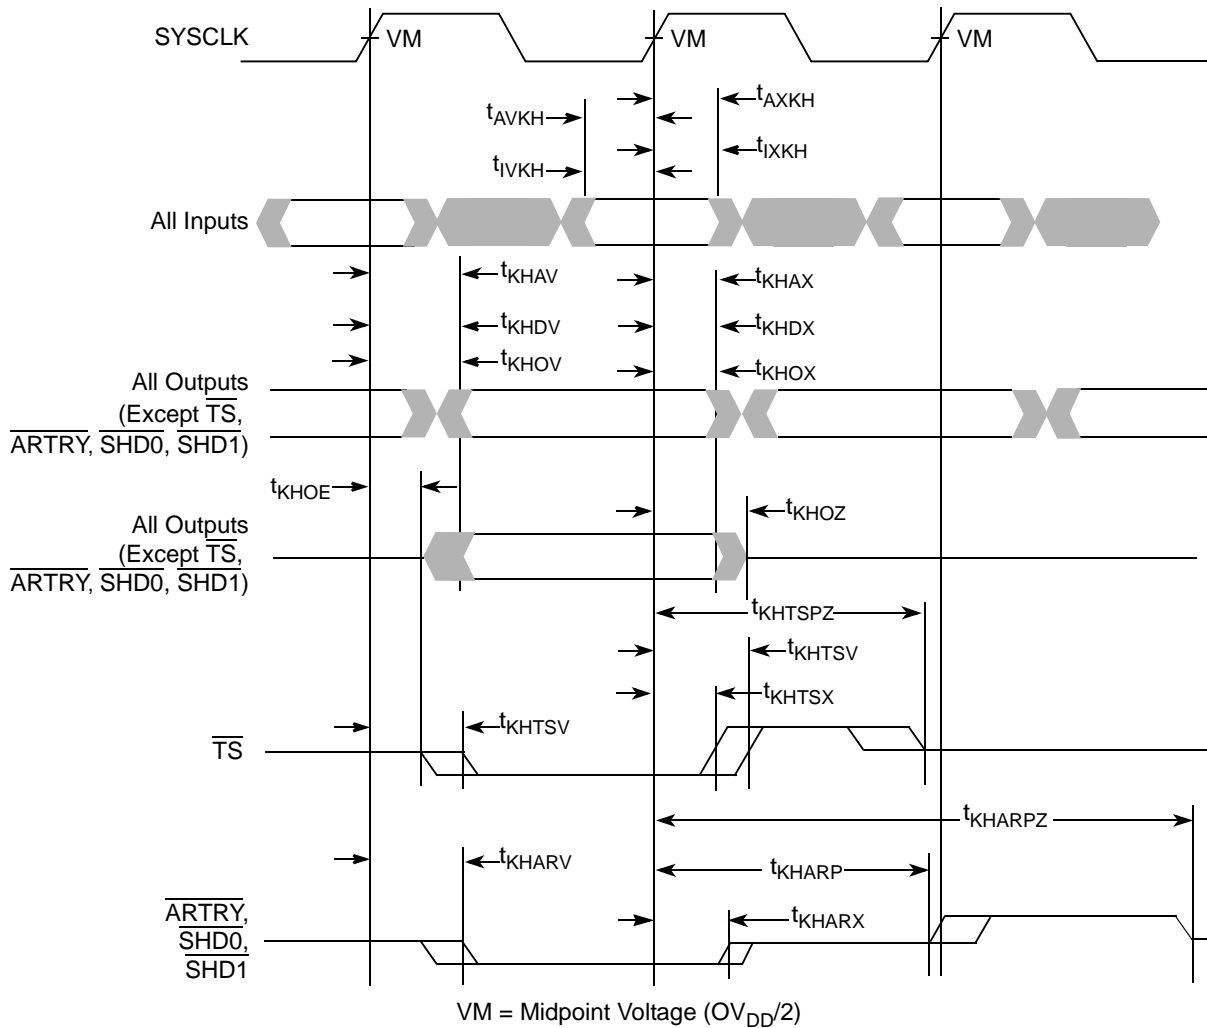

Figure 6. Input/Output Timing Diagram
- According to the bus protocol,  $\overline{\text{TS}}$  is driven only by the currently active bus master. It is asserted low then precharged high before returning to high impedance as shown in Figure 6. The nominal precharge width for  $\overline{\text{TS}}$  is  $0.5 \times t_{\text{SYSCLK}}$ , that is, less than the minimum  $t_{\text{SYSCLK}}$  period, to ensure that another master asserting  $\overline{\text{TS}}$  on the following clock will not contend with the precharge. Output valid and output hold timing is tested for the signal asserted. Output valid time is tested for precharge. The high-impedance behavior is guaranteed by design.
- According to the bus protocol,  $\overline{\text{ARTRY}}$  can be driven by multiple bus masters through the clock period immediately following  $\overline{\text{AACK}}$ . Bus contention is not an issue because any master asserting  $\overline{\text{ARTRY}}$  will be driving it low. Any master asserting it low in the first clock following  $\overline{\text{AACK}}$  will then go to high impedance for one clock before precharging it high during the second cycle after the assertion of  $\overline{\text{AACK}}$ . The nominal precharge width for  $\overline{\text{ARTRY}}$  is  $1.0 t_{\text{SYSCLK}}$ ; that is, it should be high impedance as shown in Figure 6 before the first opportunity for another master to assert  $\overline{\text{ARTRY}}$ . Output valid and output hold timing is tested for the signal asserted. The high-impedance behavior is guaranteed by design.
Figure 6 provides the input/output timing diagram for the MPC7455.